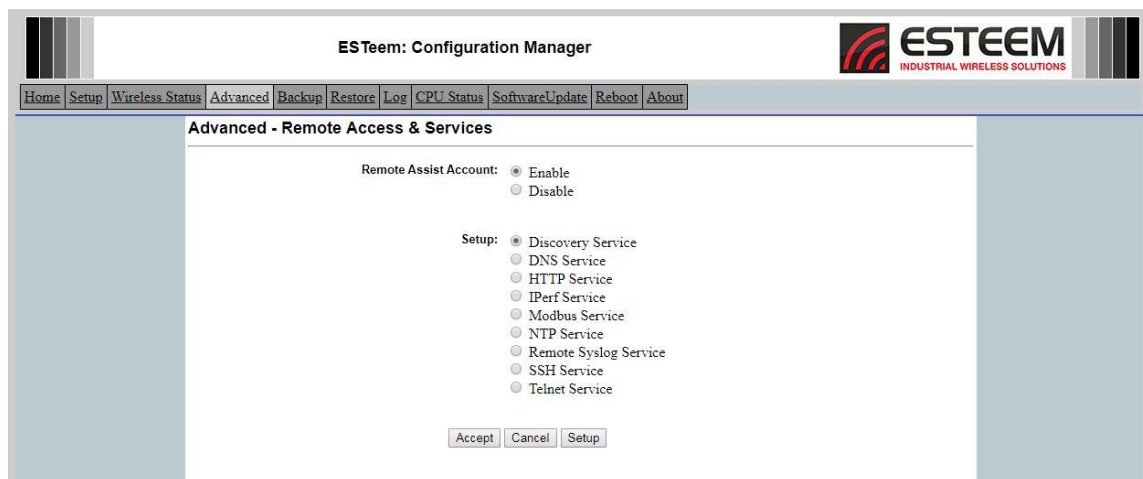

Figure 8: Remote Access & Services Settings
1. Select **Advanced** from the menu items and **Remote Access & Services** (Figure 8).
2. Press the Next button and Figure 8 will be displayed. Select **NTP Service** then click Setup.